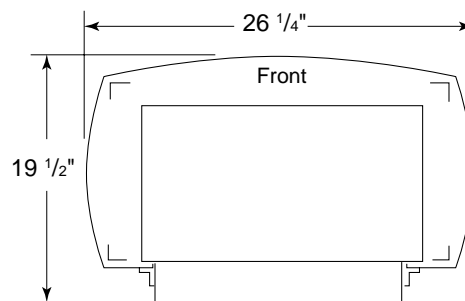

Figure 5 - Stove With Burner System Bottom Dimensions
- This stove is a freestanding unit designed to set directly on the floor. If your stove is to be installed directly on carpeting, vinyl tile, or any combustible material other than wood, it must be installed on a metal or wood panel extending the full width and depth of the stove. See Figure 5.